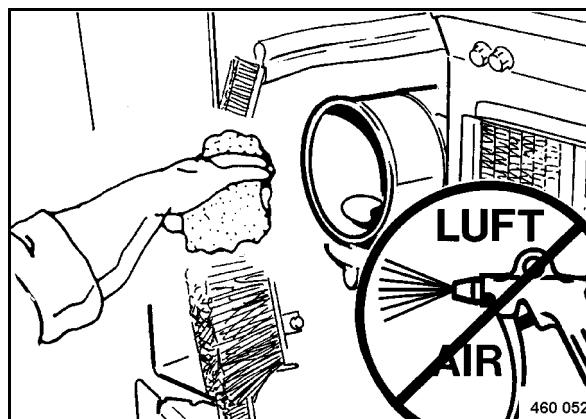

Fig. 89
- Clean the air filter housing out with a cloth (Fig. 89).